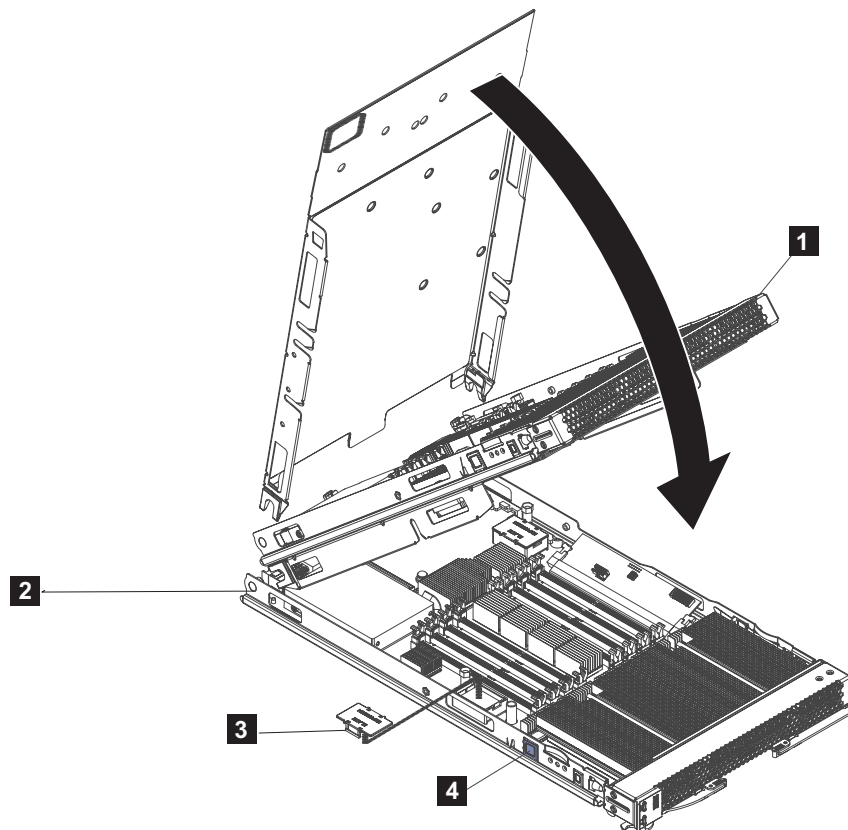

Figure 11. Installing the expansion unit
5. Remove the expansion connector cover, as shown by **3** in Figure 11.